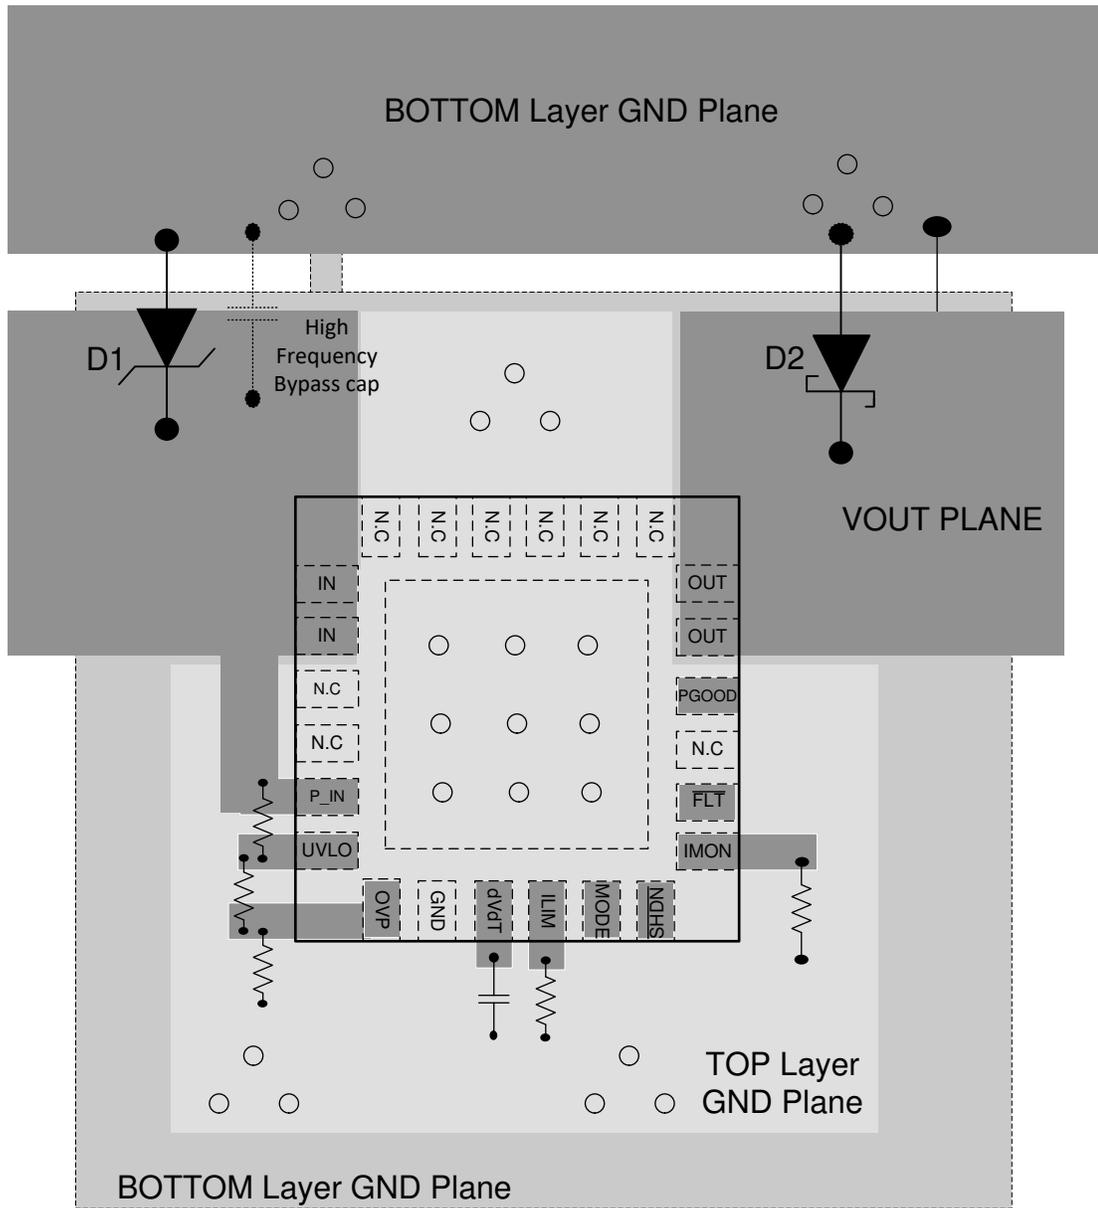

Figure 10-11. PCB Layout Example With QFN Package With a 2-Layer PCB
- High current carrying power path connections must be as short as possible and must be sized to carry at least twice the full-load current. See Figure 10-11 and Figure 10-12 for a typical PCB layout example.